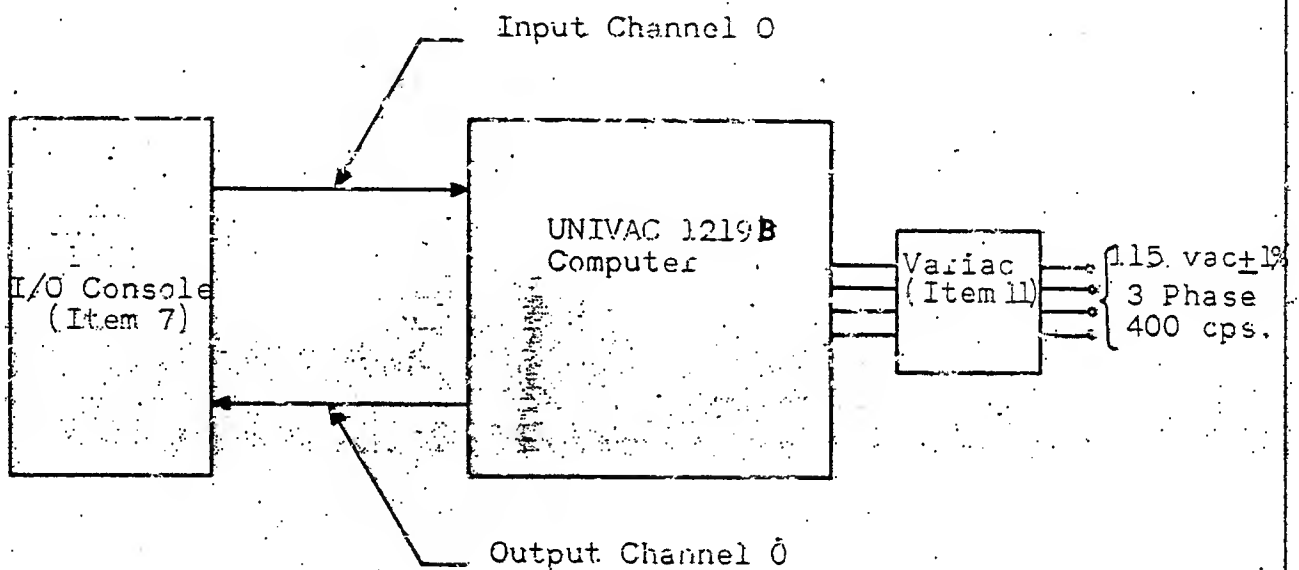

Figure 2. Programed Inspection Test Configuration
3.1 Description and test setup. - The programed inspection exercises the Computer and includes testing of input/output operations, command functions, arithmetic operations, and memory. The Appendix to this specification contains descriptions of programs, including flow charts, data pages, and program listings. Unless otherwise specified, all controls, indicators, and switches are located on the Computer. The referenced programs may be loaded into the Computer memory by utilizing programs and loading procedures specified in PX 3288. Connect the Computer as specified in figure 2 to perform the programed inspection. If necessary, operate switches to initial positions as specified in table I.